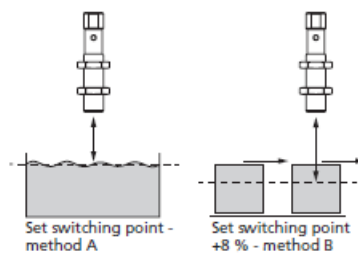

Fig. 4: Setting the switching point for different directions of movement of the object
- In the »Set switching point – method A« Teach-in procedure the actual distance to the object is taught to the sensor as the switching point. If the object moves towards the sensor (e.g. with level control) then the taught distance is the level at which the sensor has to switch the output, see Fig. 4.
- If the object to be scanned moves into the detection zone from the side, the »Set switching point +8 % – method B« Teach-in procedure should be used. In this way the switching distance is set 8 % further than the actual measured distance to the object. This ensures a reliable switching distance even if the height of the objects varies slightly, see Fig. 4.